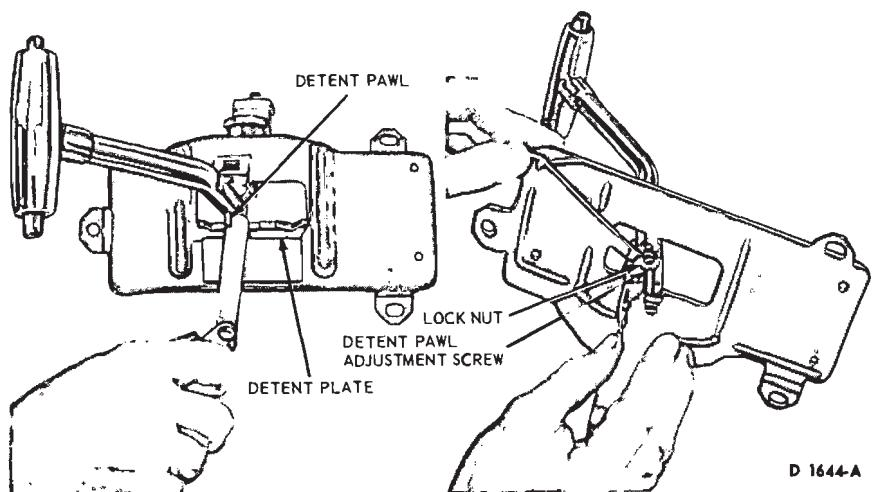

FIG. 14—Typical Selector Lever Detent Pawl Adjustment
13. Position the selector lever as shown in Figure 14. With a feeler gauge, check the clearance between the detent pawl and plate. The clearance should be 0.005 to 0.010 inch. If necessary adjust the height of the detent pawl as shown in Figure 14.
10. Position the selector lever as shown in Figure 14. With a feeler gauge check the clearance between the detent pawl and plate. The clearance should be 0.005 to 0.010 inch. If necessary adjust the height of the detent pawl as shown in Figure 14.